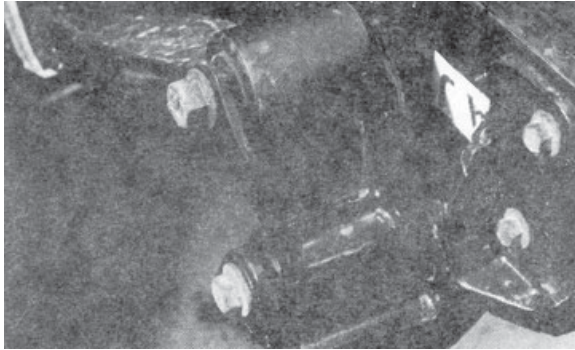

Figure 7-5.
9. Trim any bolts at rear as close as possible to the shackle nut. (See Figure 7-5.)